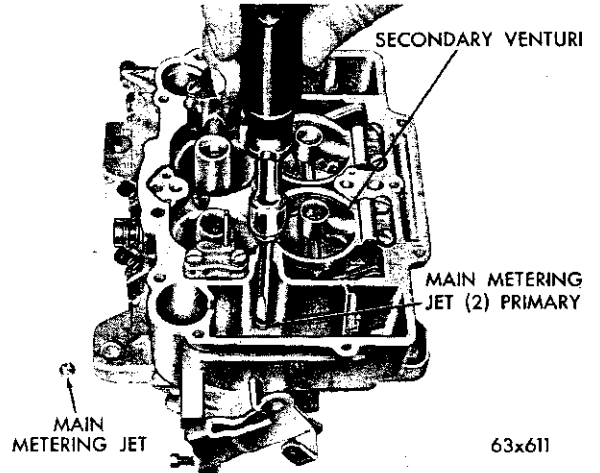

Fig. 64—Removing or Installing the Main Metering Jet
(2) Using Tool T-109-58, remove the main metering jets from the primary and secondary side, as shown in Figure 64. These jets are not interchangeable. (No. 120-159 primary; and No. 120-158 secondary).